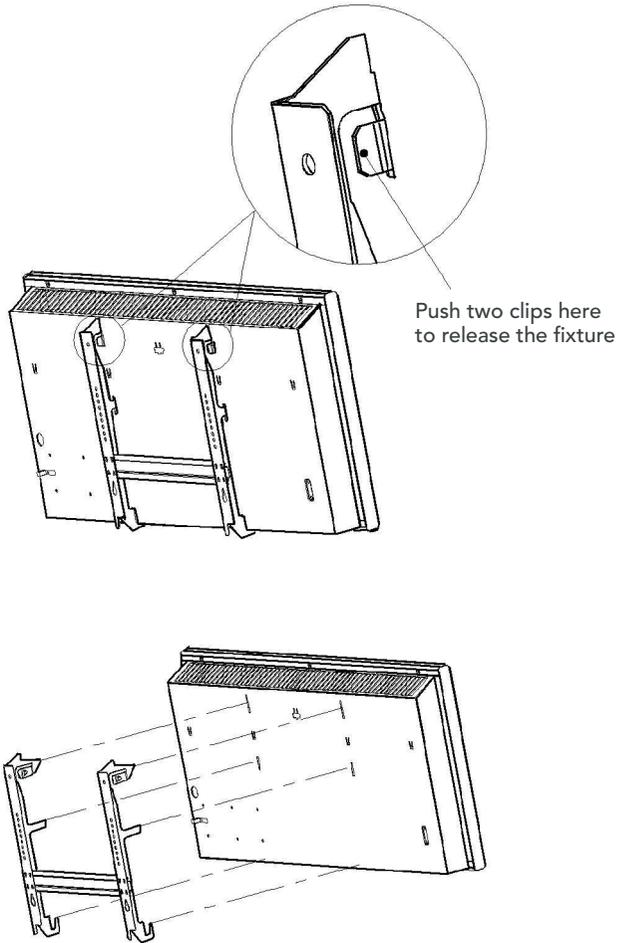

Fig. 3
- 2 Press the two clips on the fixture and push down to remove the fixture (Fig. 3).